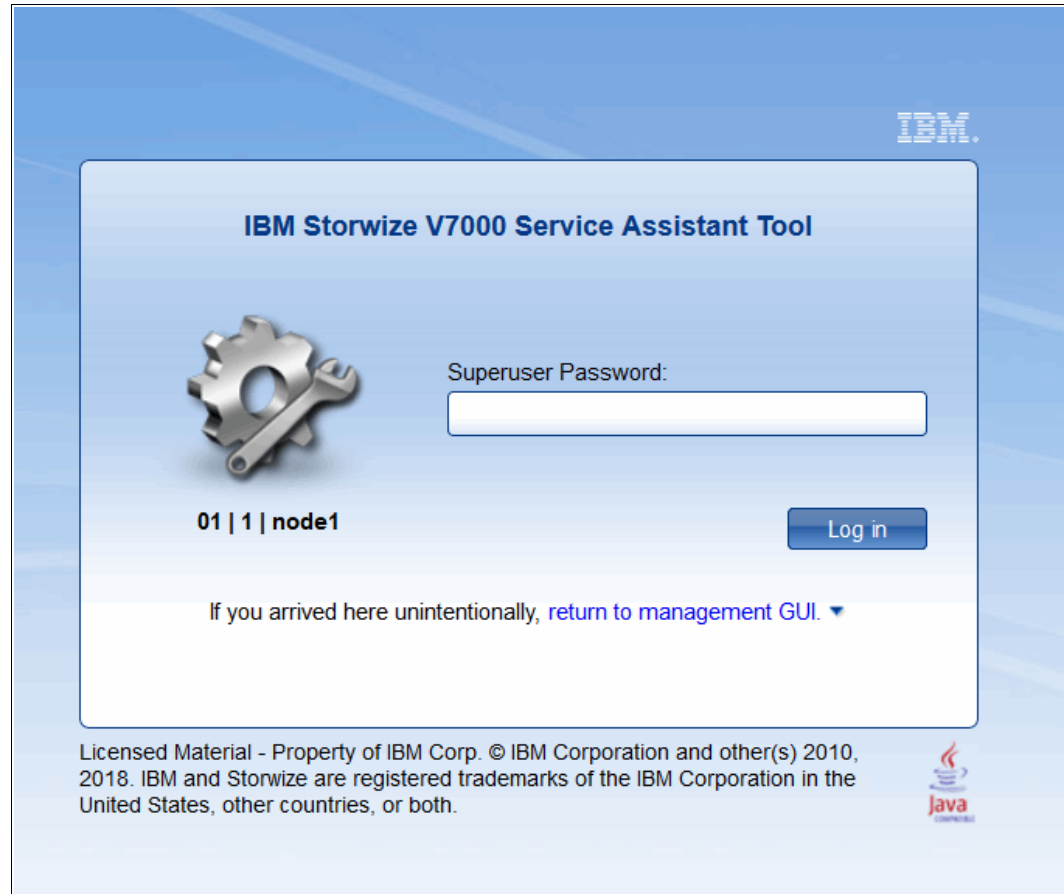

Figure 13-68 Service Assistant Tool Login GUI
1. If you are accessing SAT by using *cluster IP address/service*, the configuration node canister SAT GUI login window opens. Enter the Superuser Password, as shown in Figure 13-68.